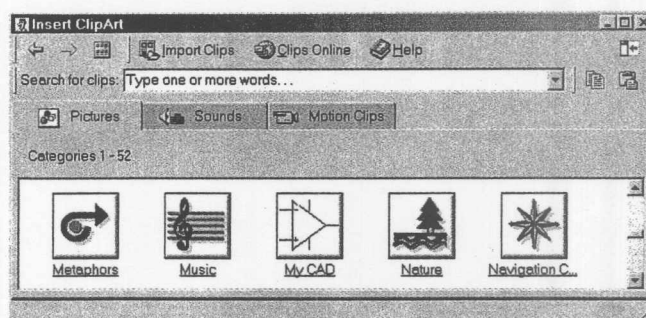

Figure 4
3. Check to see whether the new "MyCad" category icon appears in the Clip Gallery window (Figure 4) and then click on the icon to open it.